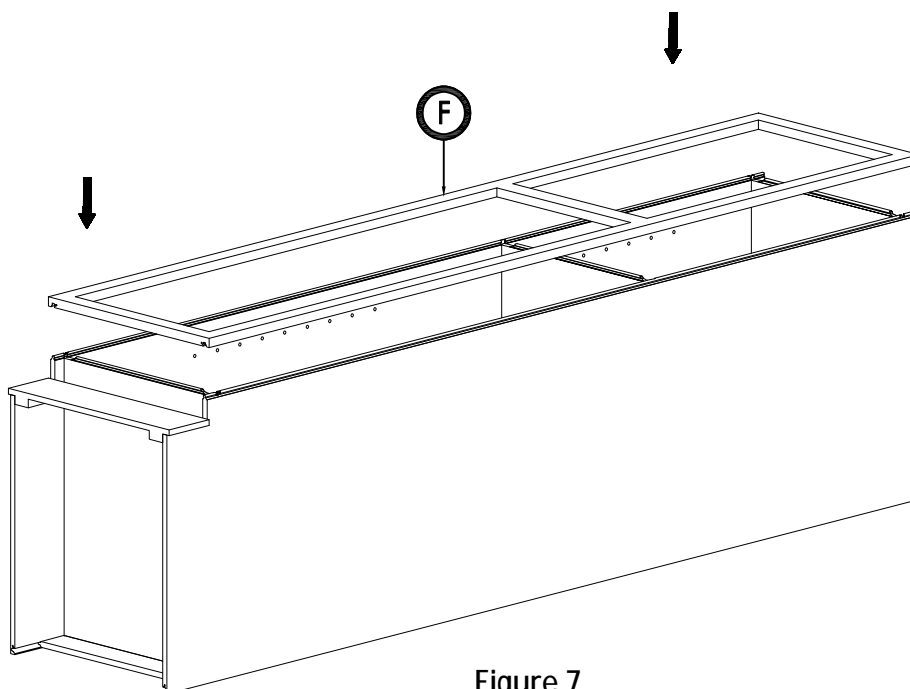

Figure 7
8. Assemble 6 hinges into three doors by screwdriver and 28 screw 7/15" (Figure 7)